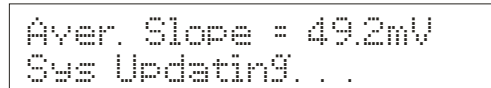

Figure 54
The screen flashes *Aver. Slope =* (the average slope of the electrode) in the upper display and *Sys Updating...* in the lower display. See **Figure 54**. The meter returns to the Ion measurement mode. You may now start taking readings.
14. Repeat steps 11-13 until you finish calibrating at desired number of points (up to 5 points). Press **EXIT**. The screen flashes *Aver.Slope =* (the average slope of the electrode) in the upper display and *Sys Updating...* in the lower display. See **Figure 54**. The meter returns to the Ion measurement mode. At the end of a 5-point calibration, the meter automatically flashes *Aver. Slope =* and *Sys Updating*, and returns to measurement mode.